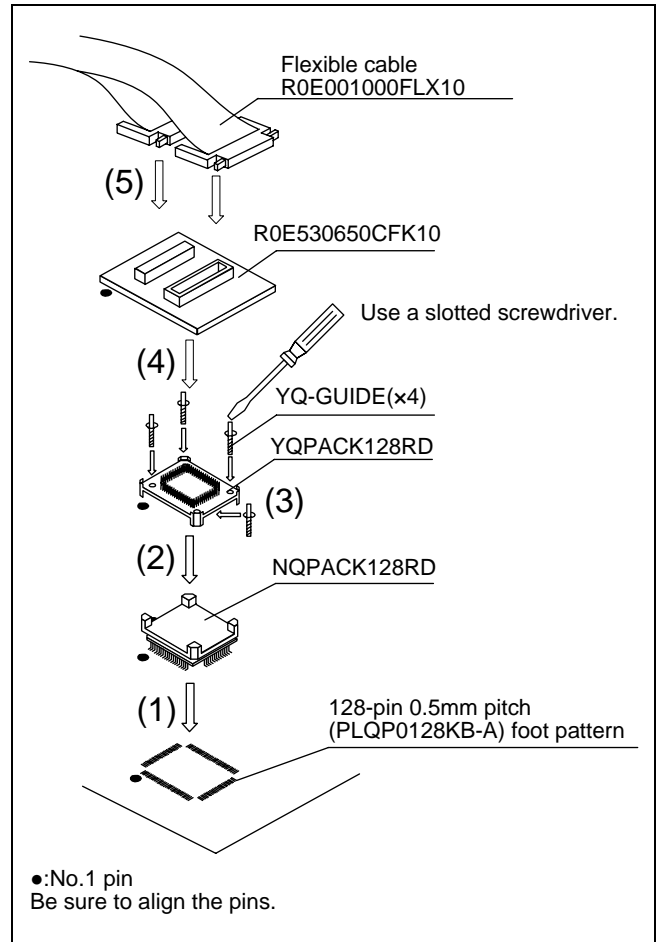

Figure 3 Connection procedure of the R0E530650CFK10
5. Connection Procedure (See Figure 3)